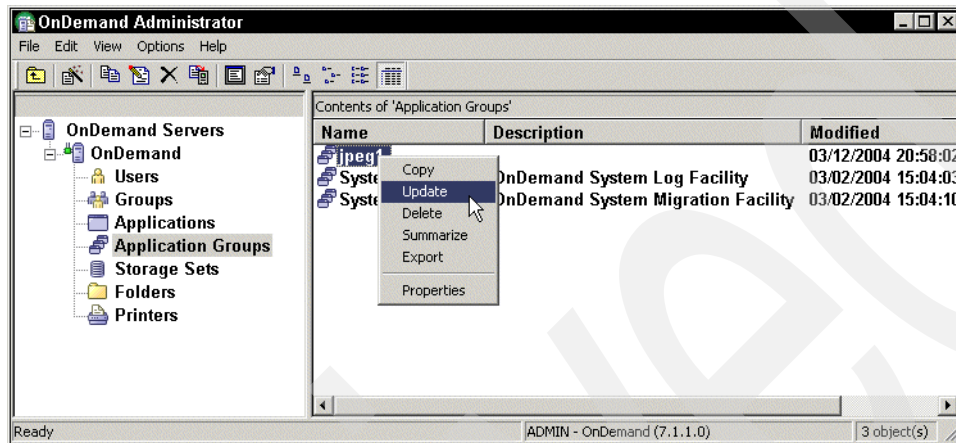

Figure 8-35 Update an Application Group
- b. Right-click and select **Update**, as shown in Figure 8-35.